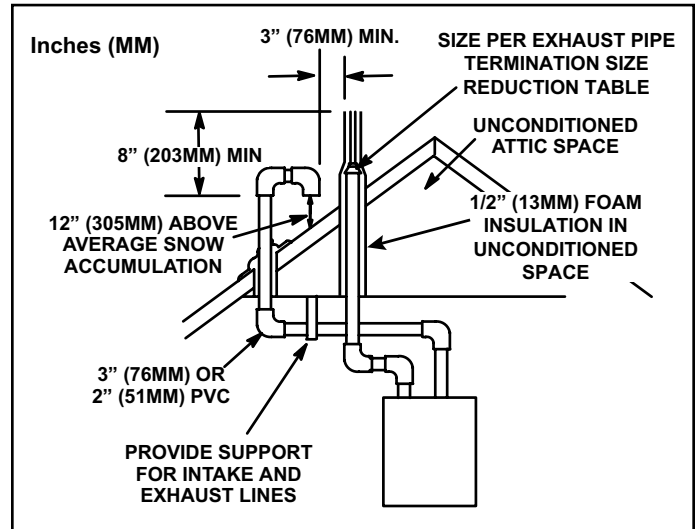
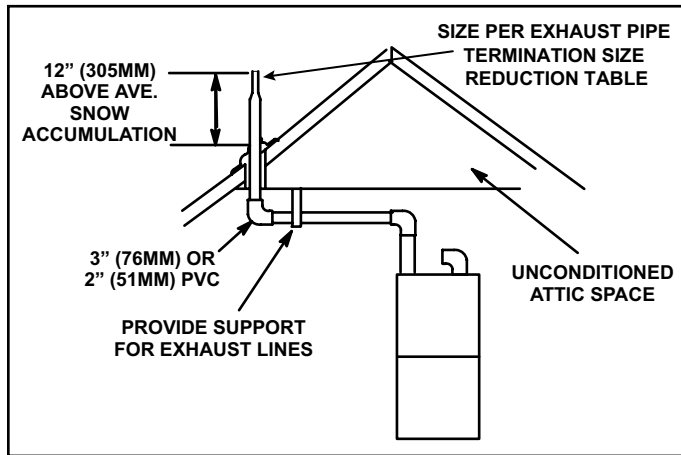

Figure 30. Direct Vent Roof Termination Kit
Figure 37. Non-Direct Vent Roof Termination Kit
Intake and exhaust pipes may be routed either horizontally through an outside wall or vertically through the roof. In attic or closet installations, vertical termination through the roof is preferred. Figure 30 through Figure 37 show typical terminations.
3. On roof terminations, the intake piping should terminate straight down using two 90° elbows (see Figure 30).